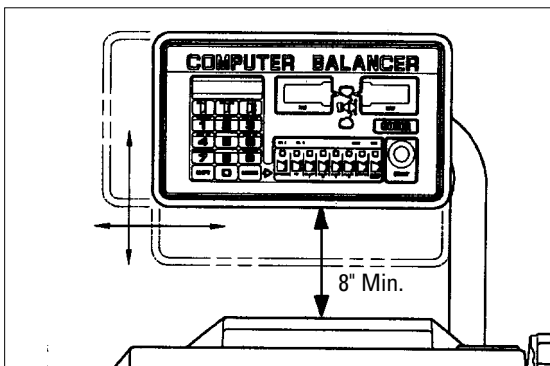

Figure 3 - Control Pod Height
10. Loosen the nuts on the support arm retainers. Raise or lower the control pod into the desired position, and tighten the retainer nuts securely. The bottom edge of the pod should be at least 8 inches above the top of the balancer (Figure 3).